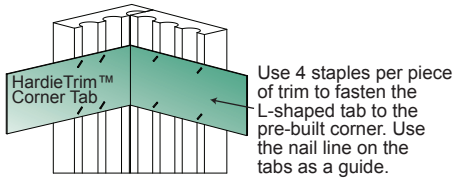

Figure 4
- Attach HardieTrim™ Corner Tabs to the back side of the trim with 8 18 ga. 1/2" x 1/4" narrow crown galvanized staples using a pneumatic staple gun. Ensure the HardieTrim Corner Tabs are fastened tight and straight to the trim boards. (Figure 4)